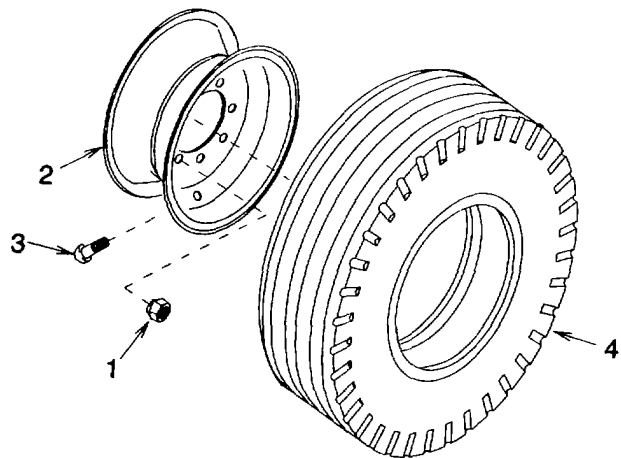

Figure 4-30. Tires/Wheels
- a. Removal (See figure 4-30.)
- (1) Using jack, raise trailer mounted extinguisher just enough to remove tires/wheels. Support trailer frame when lifted with jack stands.
- (2) Remove 8 nuts (1) and wheel (2).
- (3) Depress valve (3) stem to release air pressure in tire (4).